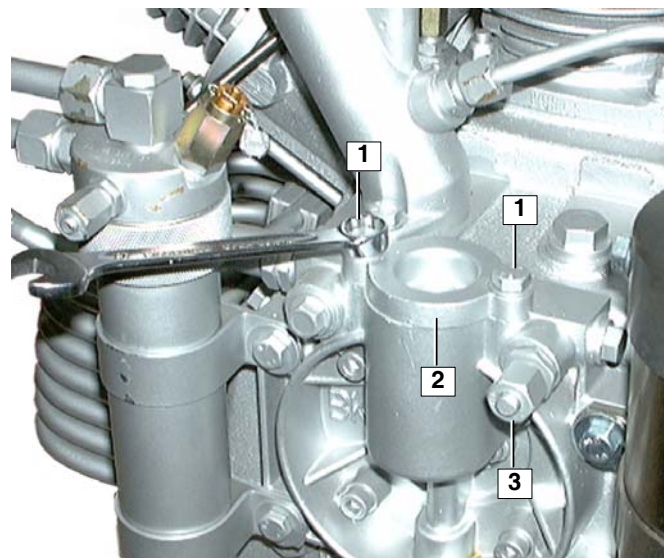

Fig. 30 Removing the cover
- Remove two screws (1, Fig. 30) with a 13 mm spanner. Remove cover (2).
- With the compressor running and all condensate drain valves open to avoid pressure being built up during this procedure, unscrew screw cap and plug (3, Fig. 30) three turns and wait until oil pours out free of air bubbles. Retighten plug and cap nut.